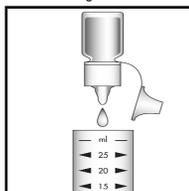

Figure 2
2. Add 3 drops of A-9500 Activator Solution (fig 2). Stir to mix the contents of the cup.